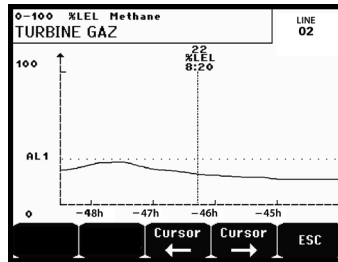

Figure 18: Example of a curve display screen
H.	Function keys. <ul style="list-style-type: none"> ■ Menu: Display of main menu See paragraph "Main menu" on page 25. ■ Curve: Display of the measurement curves of the last 10 days (Figure 18). The → and ← keys allow cursor displacement through the time scale. The vertical dotted line displays the concentration and time stamp of the point being considered. Escape: return to display of values.